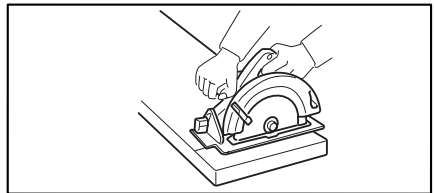
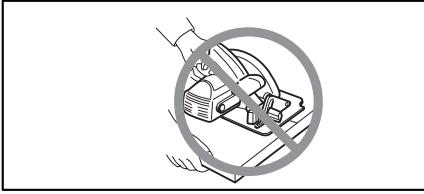

Fig. 5
Fig. 6
17. **Place the wider portion of the saw base on that part of the workpiece which is solidly supported, not on the section that will fall off when the cut is made. As examples, Fig. 5 illustrates the RIGHT way to cut off the end of a board, and Fig. 6 the WRONG way. If the workpiece is short or small, clamp it down. DO NOT TRY TO HOLD SHORT PIECES BY HAND!**